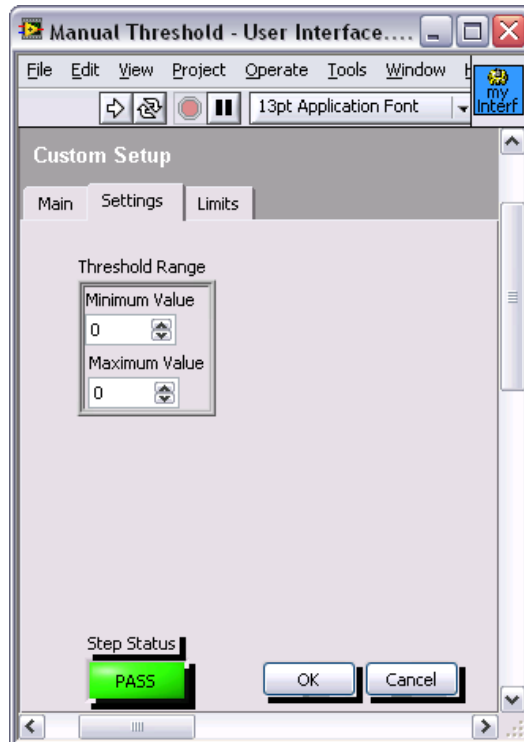

Figure 3-3. Editing the Settings Tab
7. Position the type definition cluster so that the **Minimum Value** and **Maximum Value** controls are visible, as illustrated in Figure 3-3.